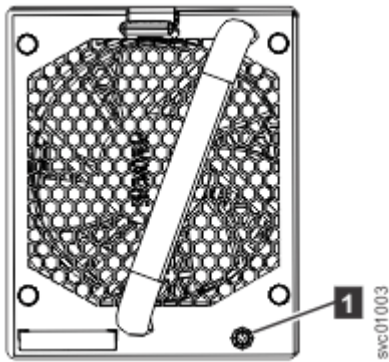

Figure 120. Fan module LED
1. Identify the fan module to be replaced. When lit, the amber LED on the front of the fan module (1 in Figure 120 on page 103) identifies a fault.